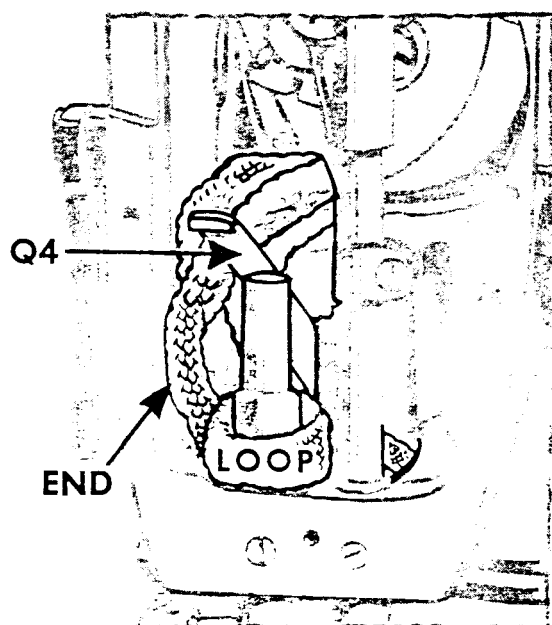

Fig. 65. Location of Wick Loop and Wick End in Machine Head
1. Replace END of wick behind tension releasing lever **Q4** and into oil pool behind lower needle bar bushing, as shown in **Fig. 65**.
2. Replace LOOP behind and then under tension releasing lever **Q4** and out over lower presser bar bushing, as shown in **Fig. 65**.